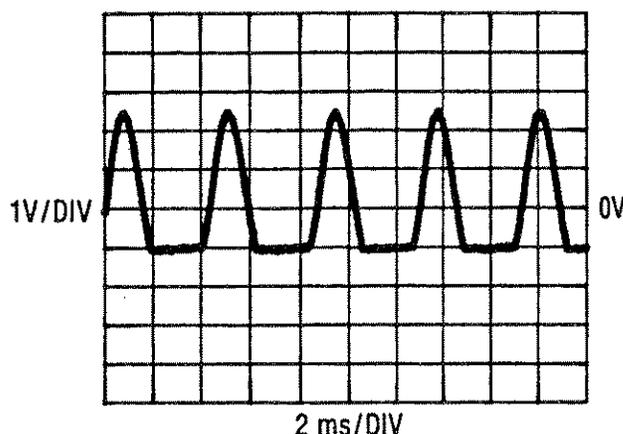

Figure 8-49. Phase Detector Control Waveform
5. Compare the signal at A5U26 pin 3 with Figure 8-49.